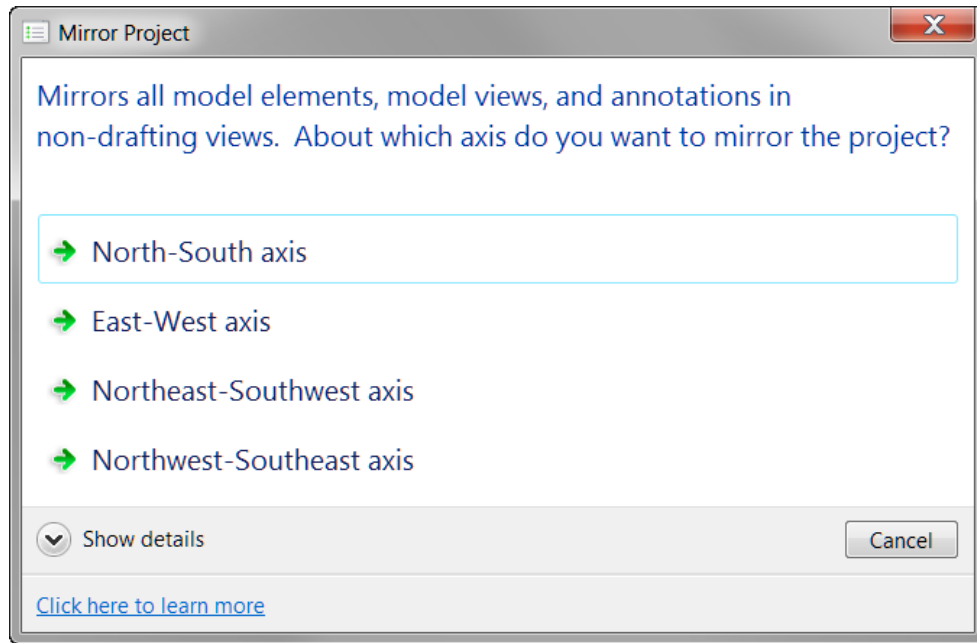

Figure 227 - The Show Details button displays additional Main Content text
The text should be written as a statement in sentence format, but with no final punctuation. See Figure 227 for an example of a Task Dialog with footer text.
- See Figure 227 for an example of a Cancel button with command links